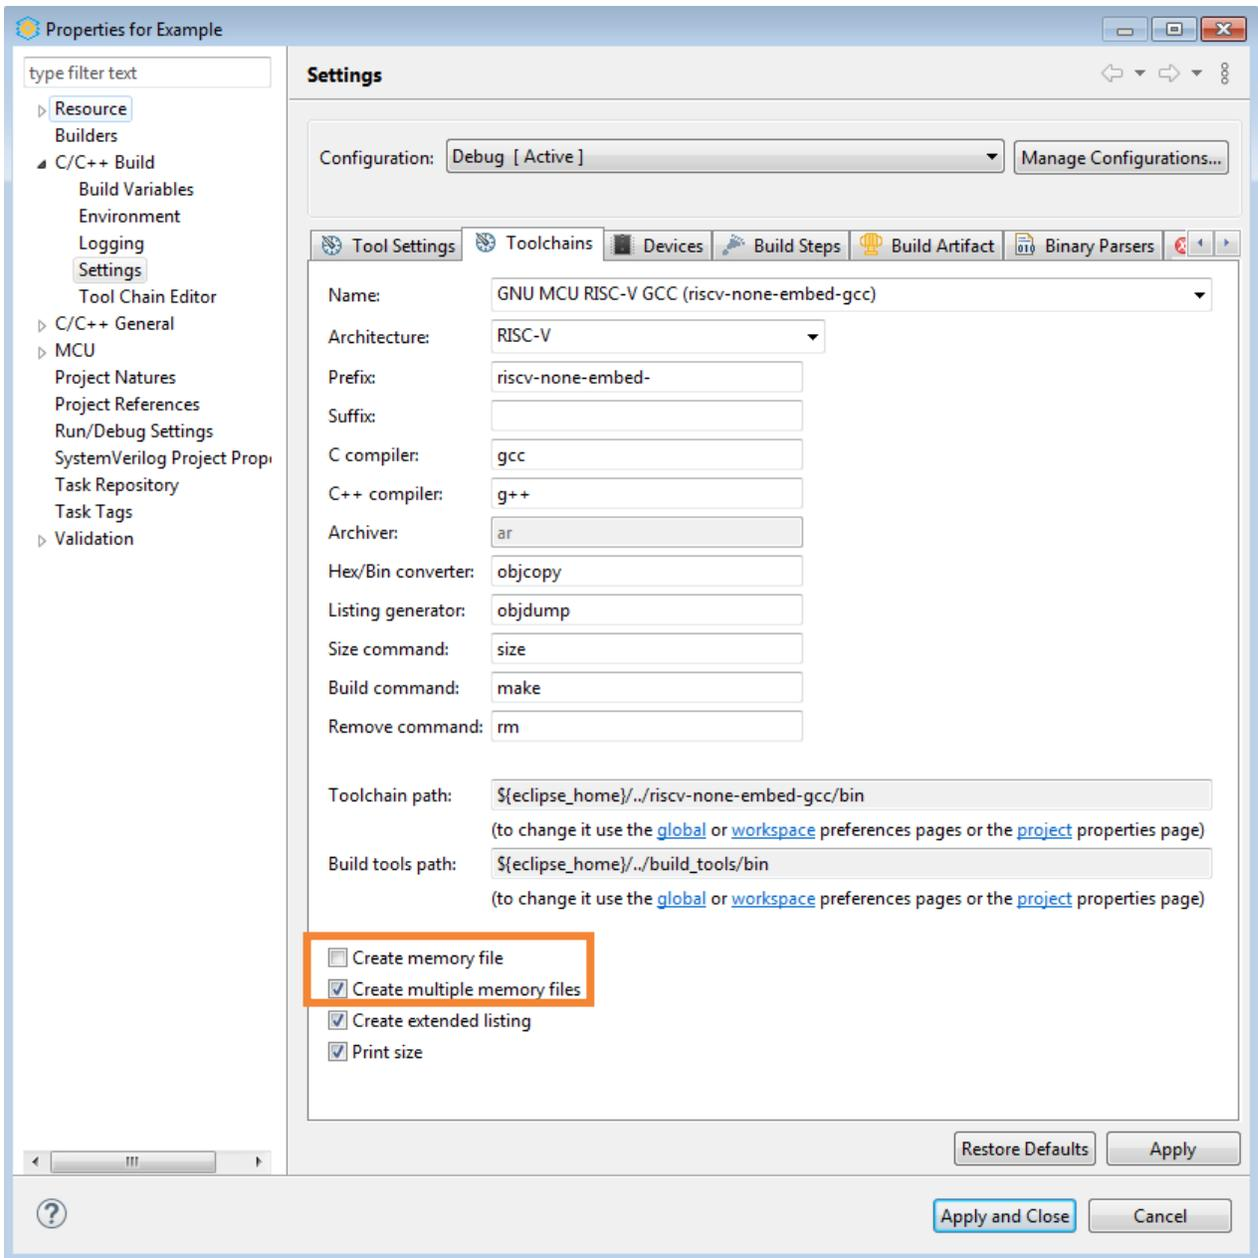

Figure A. 4. Toolchains Tab of C/C++ Build Settings
3. Select **Settings** of **C/C++ Build** category from the left pane. Select the **Toolchains** tab (Figure A. 4).